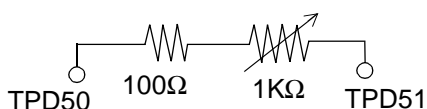

Figure 2. HHS Jig
4. HHS Jig (See Fig. 2)
4. Prepare HHS jig to be connected between TPD50 and TPD51 as shown in Fig. 2.